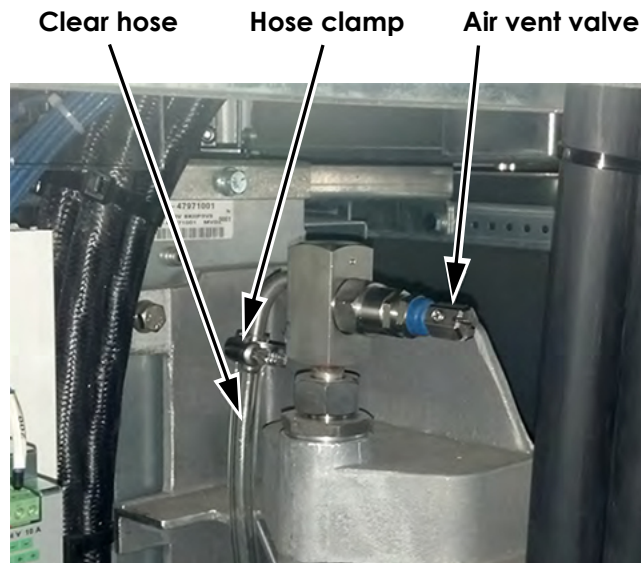
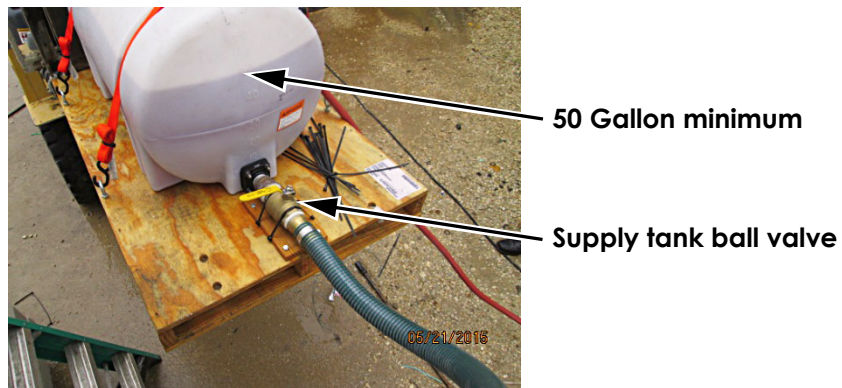

Figure 7: Air vent valve
Figure 12: Supply tank level
12. Connect a clear bleed hose to the air vent valve on each drive and secure with a hose clamp. Open each air vent valve. See Figure 7.
17. Mark the fluid level of the supply tank and verify that at least 50 gallons of WEG is available before starting the charging procedure. Verify that all fill and bleed lines enter the supply tank above the fluid level and are secured to the supply tank to prevent them from blowing out during the charging procedure. This will prevent return flow from causing fluid in the supply tank to be agitated or foamy in appearance and expedite deaeration. Open the supply tank ball valve. See Figure 9 on page 6 and Figure 12.
19. Record the start time and open the input ball valve to allow the flow of fluid from the supply tank into the system. See Figure 12 on page 8. The charging procedure should take about one hour from start to finish. The gravity feed of the fluid will happen fast. You will hear air escaping and then fluid will be present at the air vent valves on the Convertteam drives. At this time close the air vent valves on the drives. See Figure 7 on page 5.
27. Repeat this process three (3) times and then leave either pump on for duration of task.
28. Starting at one end of the drive lineup, open the first bleed line. An opaque, frothy liquid will flow out and turn more transparent after a few seconds. At that point, close the bleed line. Systematically repeat for each of the drives to the end of the line. See Figure 7 on page 5.